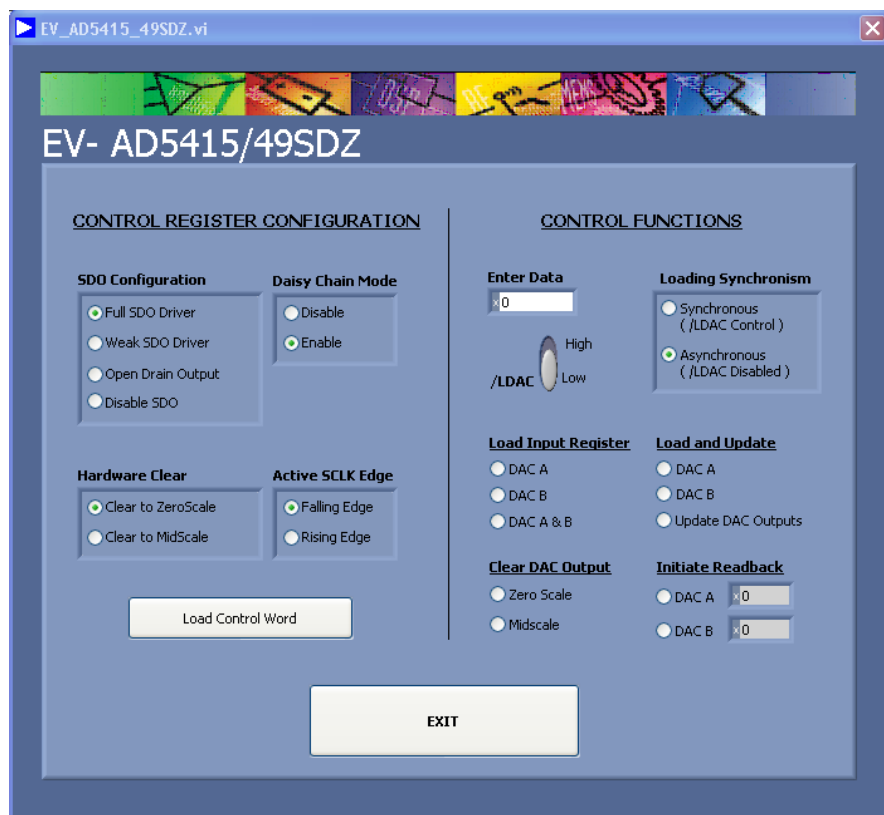

Figure 5. Evaluation Software Window
2. Run the program file from the **Analog Devices** menu. The **EV-AD5415/49SDZ** window is displayed, as shown in Figure 5.